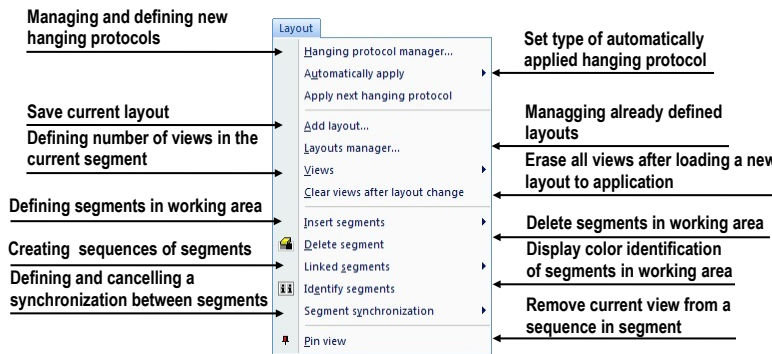

Figure 41 – Layout menu
- **Layout** – the functions for managing layouts and hanging protocols in TomoCon, such as creating a layout or hanging protocol, defining sequences or synchronizations, etc. (see Figure 41).